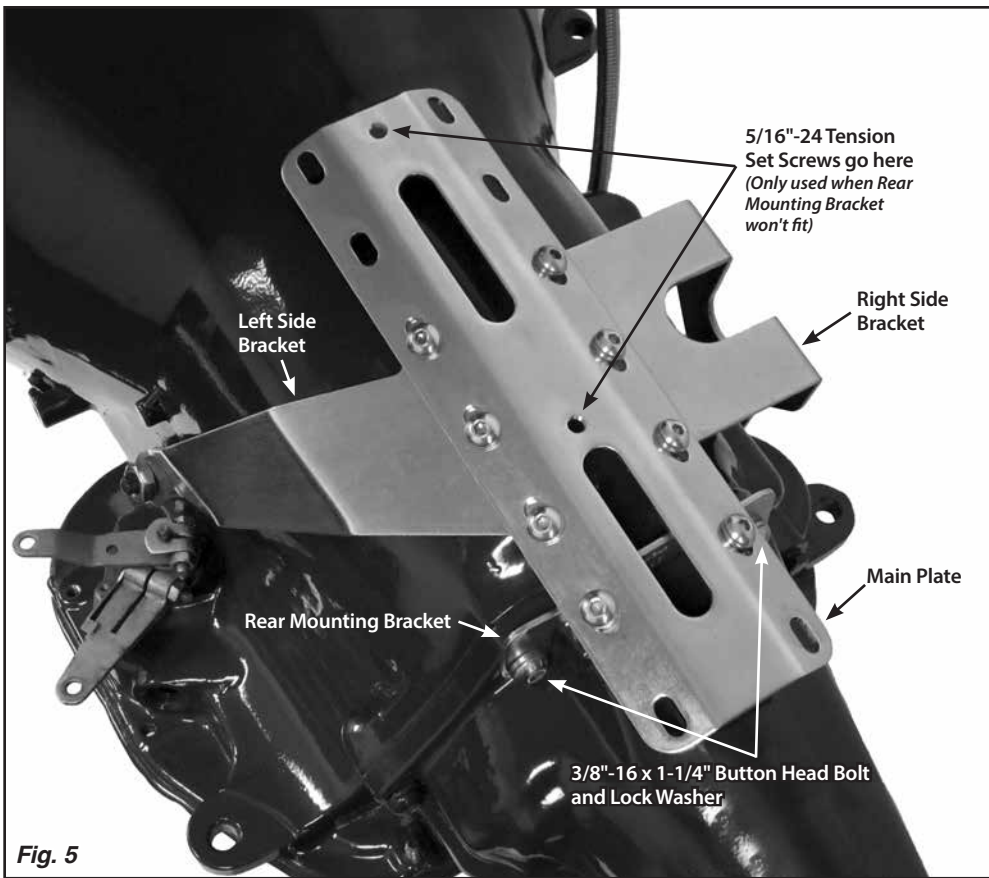

Fig. 5
Step 7: Tighten all of the bolts on the left, right, and rear (if applicable) mounting brackets. **Fig. 5**